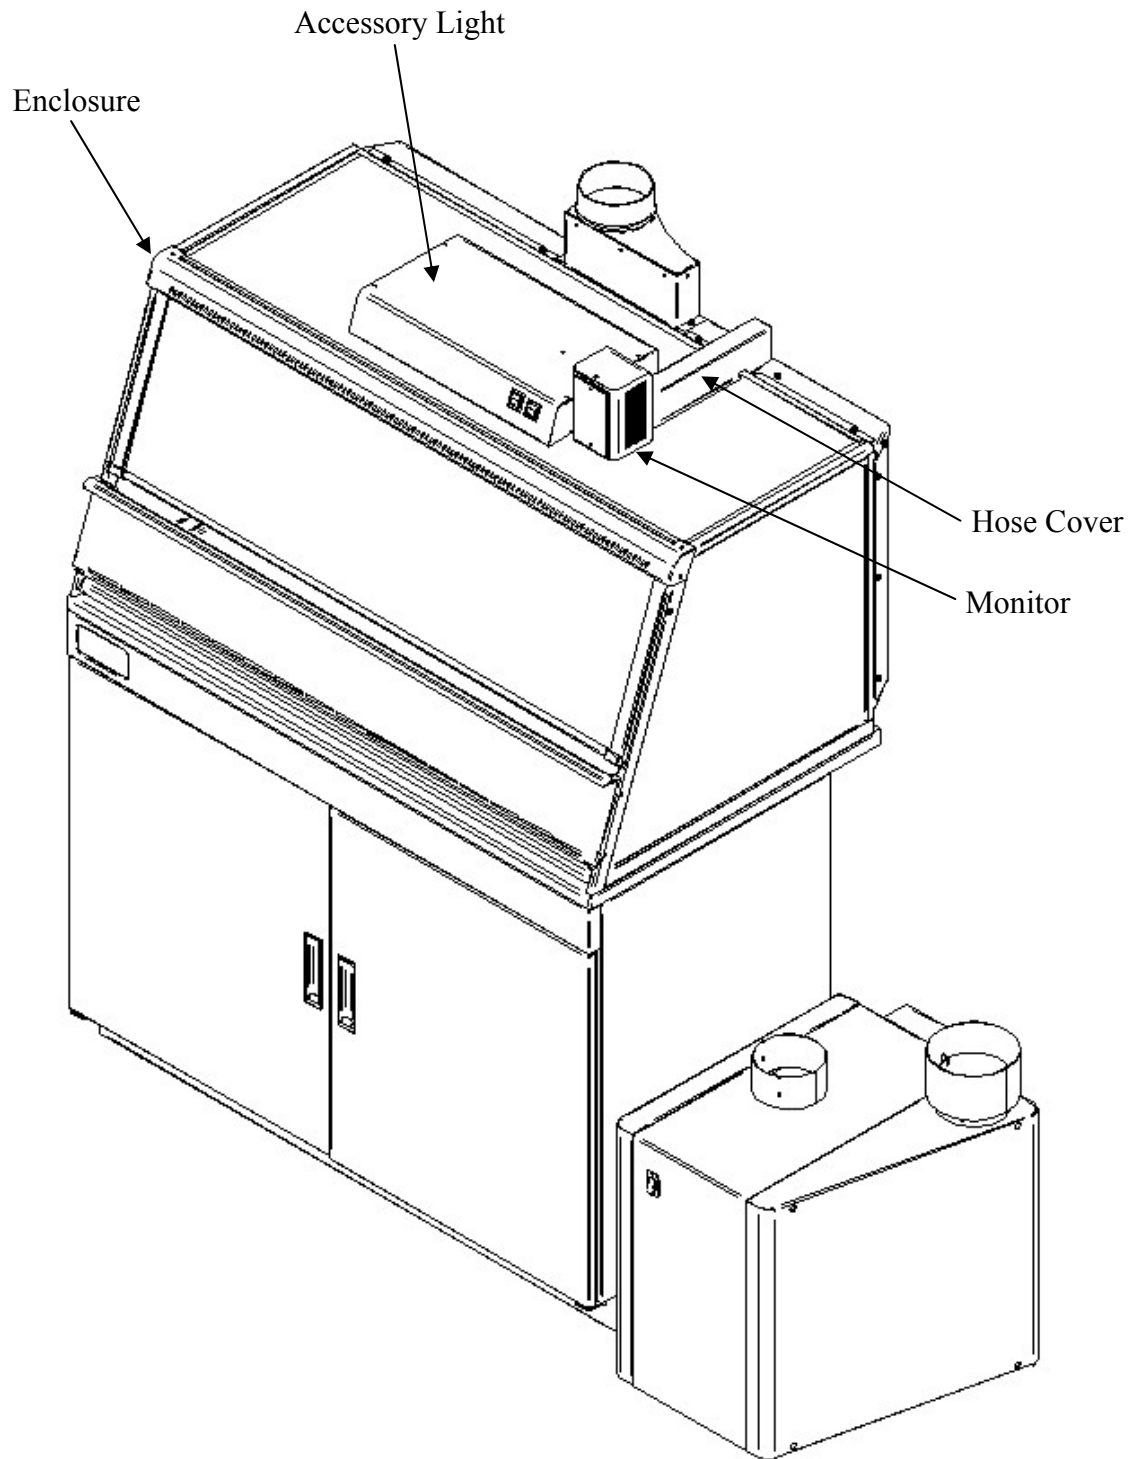

Figure 6-7
4. Secure the Guardian Digital alarm to the enclosure with double stick tape as shown in Figure 6-7. The airway passage between the alarm module and the enclosure is now complete.